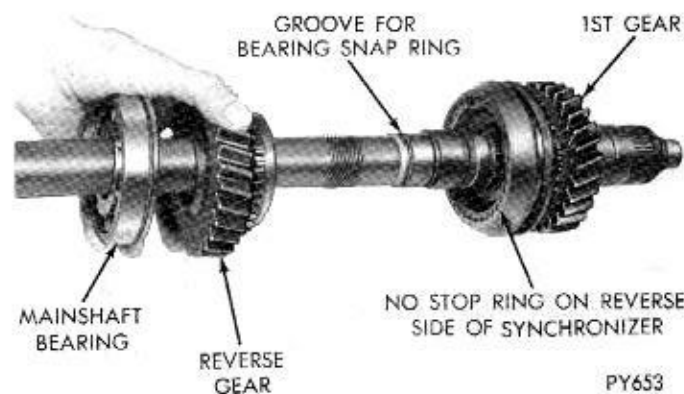

Fig. 20—Reverse Gear and Mainshaft Bearing—Removal or Installation
(7) Remove from press and slip off the end of shaft, the mainshaft bearing and reverse gear (Fig. 20).
(17) Slide reverse gear and mainshaft bearing in place and take to press, to force bearing on shaft (Fig. 20).